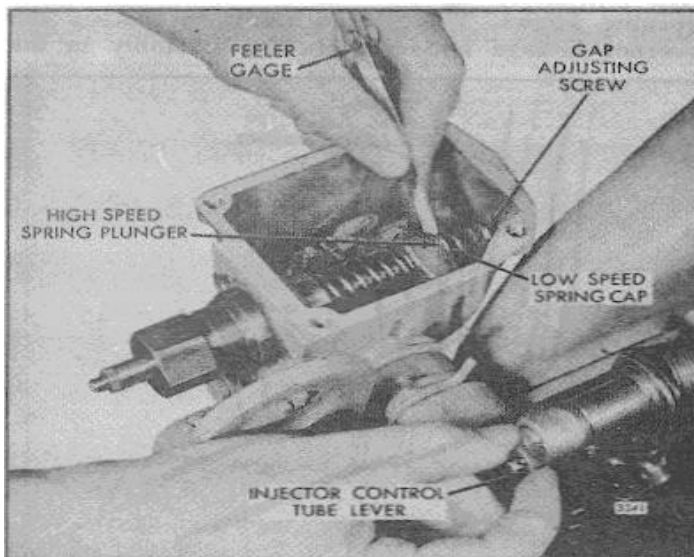

Fig. 1. Adjusting Governor Gap
6. Check the gap between the low-speed spring cap and the high-speed spring plunger with a .0015 " feeler gage. If the gap setting is incorrect, reset the gap adjusting screw (Fig. 1). If the setting is correct, the .0015" movement can be seen by placing a few drops of oil into the governor gap and pressing a screwdriver against the gap adjusting screw. Movement of